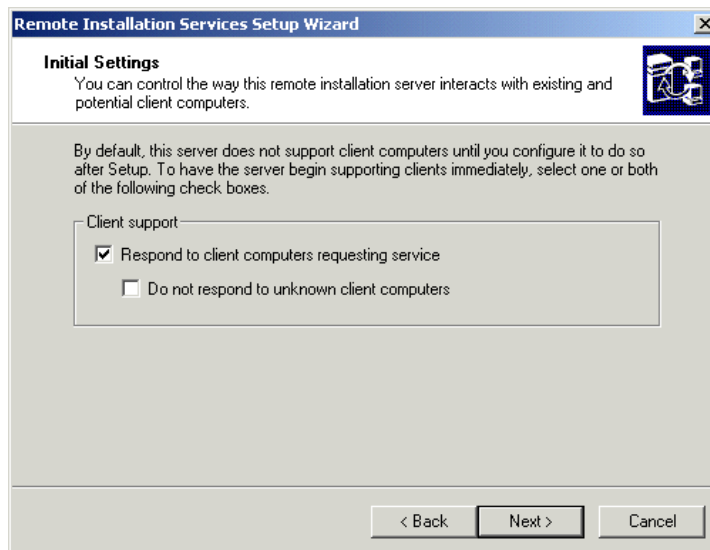

Figure 4-3 Settings for RIS-installation
10. Select **Respond to client computers requesting service** (Figure 4-3) and click **Next**.